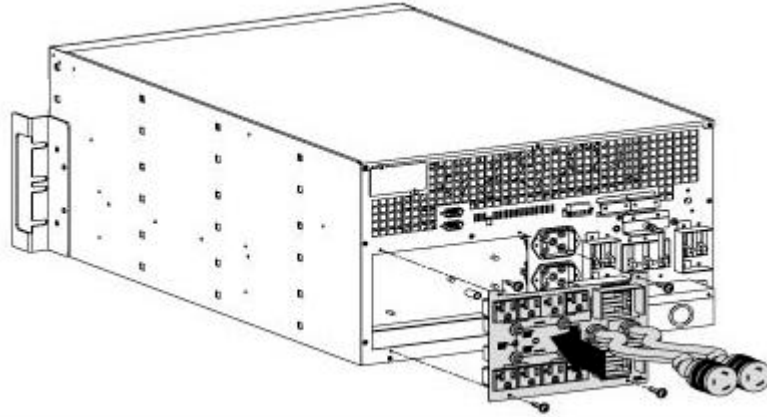

FIG 41 – PDU INSTALL 10KVA UPS
8. On the 10kVA model, connect terminals on the backside of the PDU with connections in the PDU tray on the backside of the UPS, and slide the PDU into the UPS (FIG 41).